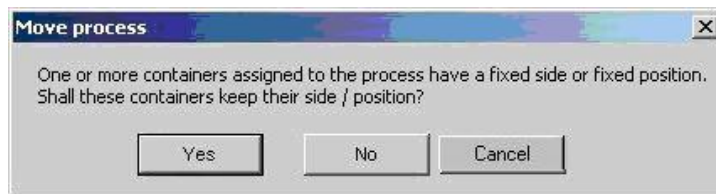

Figure 277: Prompt when Moving a Process
- If you now move a container process with a fixed assignment to another workplace, you can determine beforehand whether this container should be placed at a new workplace of the process or whether it should remain at the old place. *Please refer to the Figure 277.*